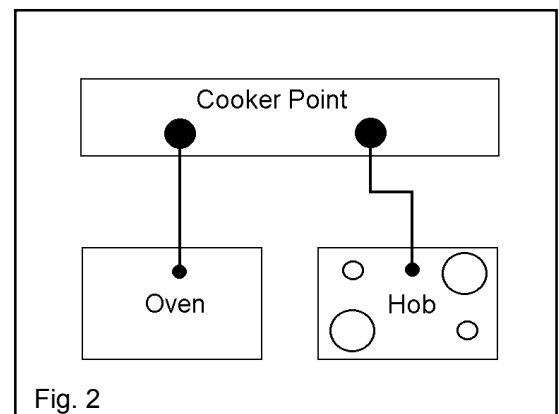

Fig. 2
- If you wish to connect an oven and a hob to a cooker point you can, by connecting the oven and hob separately to the cooker point. Oven and hob units should be separately connected to a cooker point. See Fig. 2.